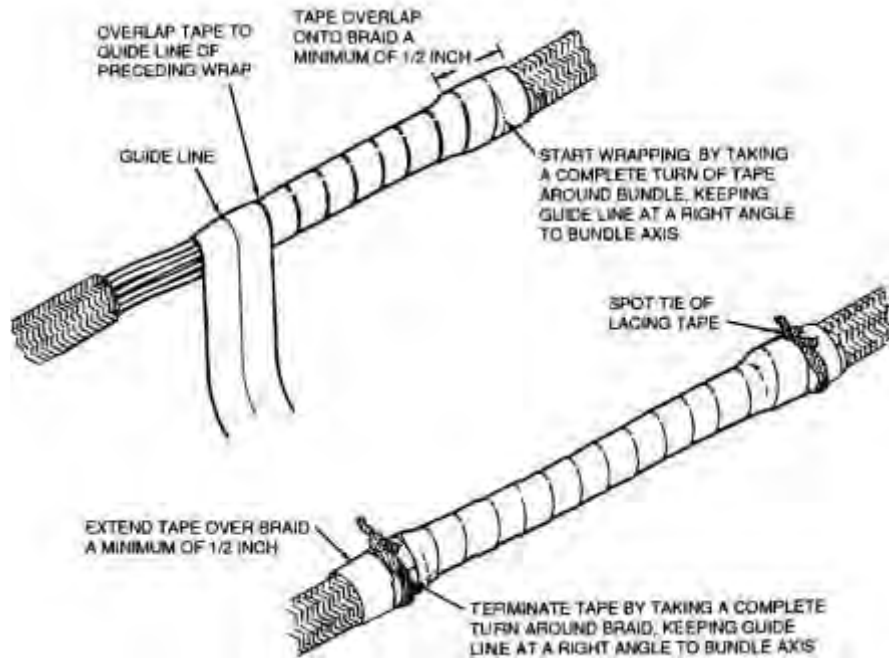

Figure 220
4. Attach tape to the braid as follows (See Figure 220):